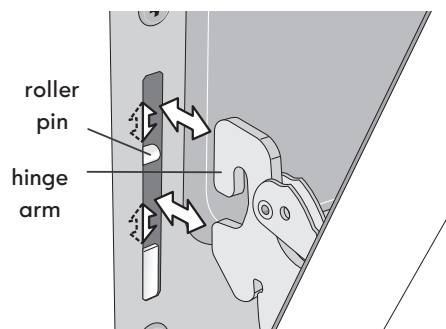

Figure 20: Replacement and location of hinge arm and roller pin
5. With the oven door in the broil stop position, lift the oven door hinge arms over the roller pins located on each side of the oven frame (Figure 20).
2. Holding the oven door at the same angle as the removal position, seat the hook of the hinge arm over the roller pins located on each side of the oven door frame (Figure 20). The hook of the hinge arms must be fully seated onto the roller pins.